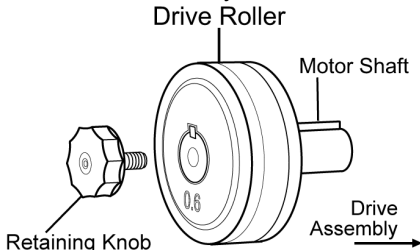

Figure 6. Drive Roller
4. Locate the side of the drive roller that is stamped with the same wire diameter as that of the wire being installed (see Figure 6). Push the drive roller onto the motor shaft. Make sure the side stamped with the desired wire diameter is facing the Drive Assembly.